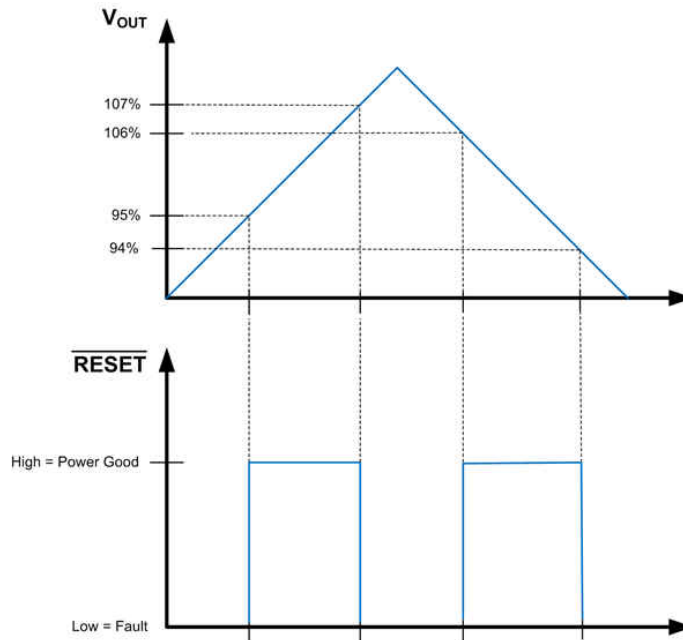
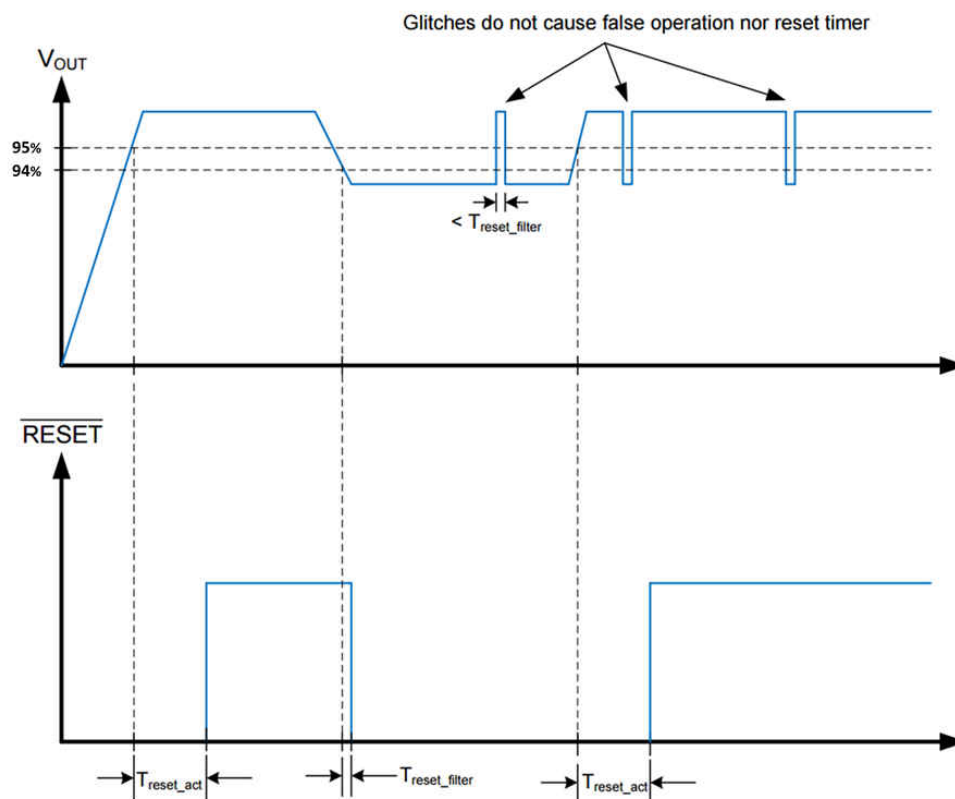

图 8-2. Static RESET Operation
图 8-3. RESET Timing Behavior
The RESET function, built into the LM53625/35-Q1, has special features not found in the ordinary Power-Good function. A glitch filter prevents false flag operation for short excursions in the output voltage, such as during line and load transients. Furthermore, there is a delay between the point at which the output voltage is within specified limits and the flag asserts Power Good. Because the RESET comparator and the regulation loop share the same reference, the thresholds track with the output voltage. This allows the LM53625/35-Q1 to be specified with a 96.5% maximum threshold, while at the same time specifying a 94 % worst case threshold with respect to the actual output voltage for that device. This allows tighter tolerance than is possible with an external supervisor device. The net result is a more accurate Power-Good function while expanding the system allowance for transients, and so forth. RESET operation can best be understood by reference to Figure 8-2 and Figure 8-3. The values for the various filter and delay times can be found in Table 7.7. Output voltage excursions lasting less than  $T_{\text{RESET-filter}}$  do not trip RESET. Once the output voltage is within the prescribed limits, a delay of  $T_{\text{RESET-act}}$  is imposed before RESET goes high.
- A delay has been added for release of reset. See 图 8-2 and 图 8-3 for more detail.